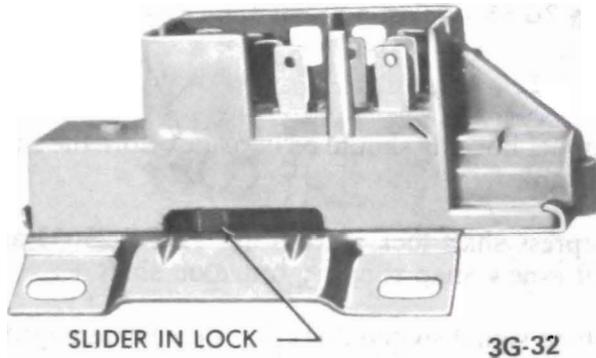

Figure 3G-52 - Ignition Switch Slider in "Lock" Position
15. Install the washer, spring and horn contact - cancelling cam on shaft, making certain that the turn signal switch is in "Neutral" and the hazard warning plunger is out. Install the shaft lock plate on the shaft. See Figure 3G-53.